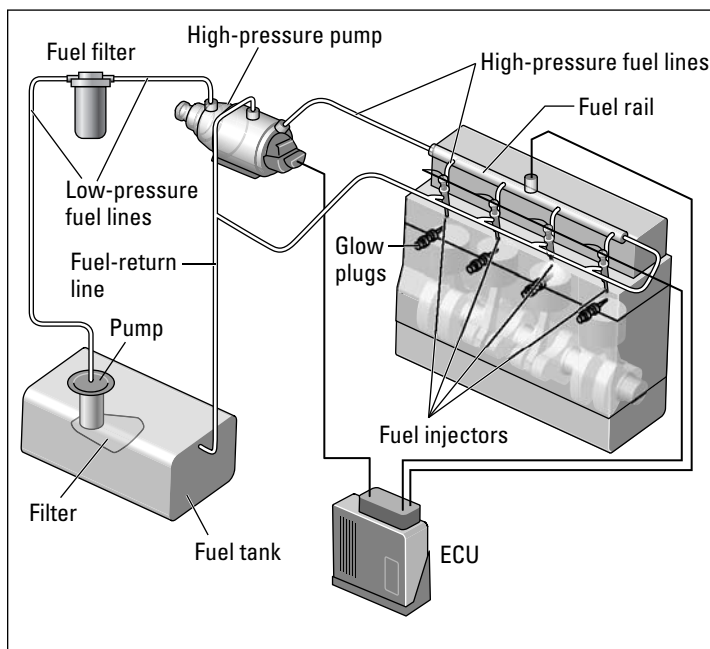

Figure 9-5: A common rail fuel injection system.
4. In the most common type of modern diesel fuel system, called *common rail direct injection* (CDI) and shown in Figure 9-5, the **fuel injection pump** pressurizes fuel into a delivery tube called a *rail* and keeps it there under constant high pressure of 23,500 pounds per square inch (**psi**) or even higher while it delivers the fuel to each cylinder at the proper time. (Gasoline fuel injection pressure may be just 10 to 50 psi!) The fuel injectors feed the fuel as a fine spray into the **combustion chambers** of the cylinders through nozzles controlled by the engine's **engine control unit (ECU)**, which determines the pressure, when the fuel spray occurs, how long it lasts, and other functions.